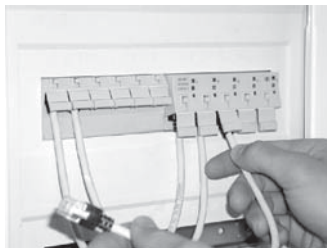

Fig. 6
- 4 Plug the patch panel in the RJ-45 jacks on the front face and connect them with the active network components (s. fig. 6).